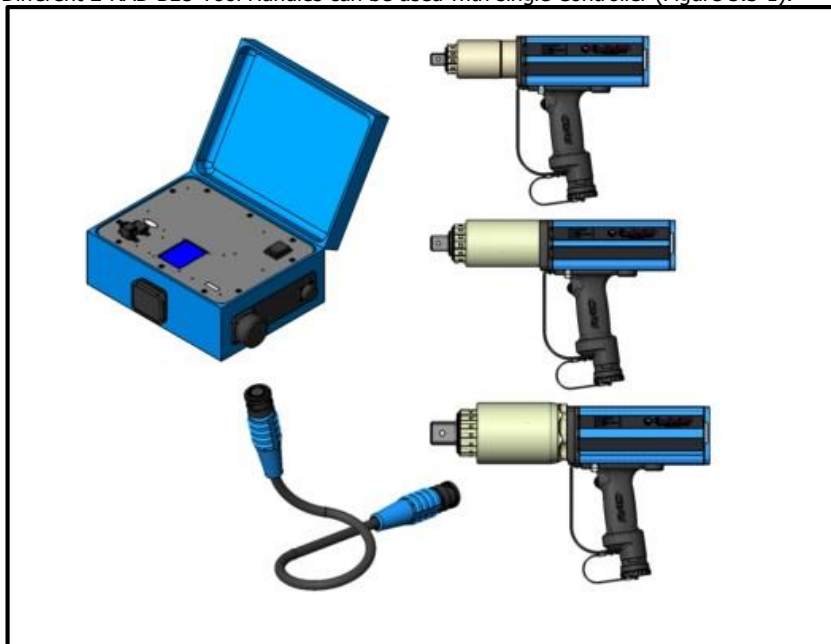

Figure 3.3-1: Multiple Tool Handles can connect to single Controller
**Note:** Different E-RAD BLU Tool Handles can be used with single Controller (Figure 3.3-1).